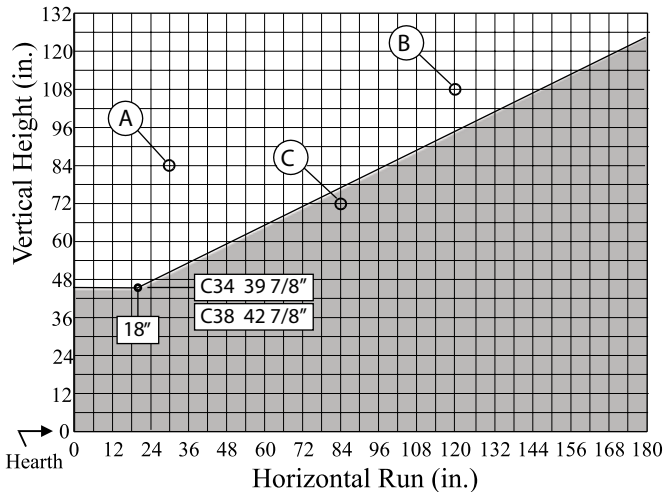

Figure 9. C34-DV, C38-DV Top Vent Venting Graph
Measure the vertical height from the fireplace hearth to the centre of the termination and the horizontal run from the fireplace flue collar to the wall flange of the termination. Plot on the Venting Graph (**Fig. 9**) with an 'X'.
**NOTES:** All dimension lengths for vertical or horizontal runs are measured from centre of the vent pipe. Venting runs *must* fall within the limits set by the venting graph (see **Figure 9**).